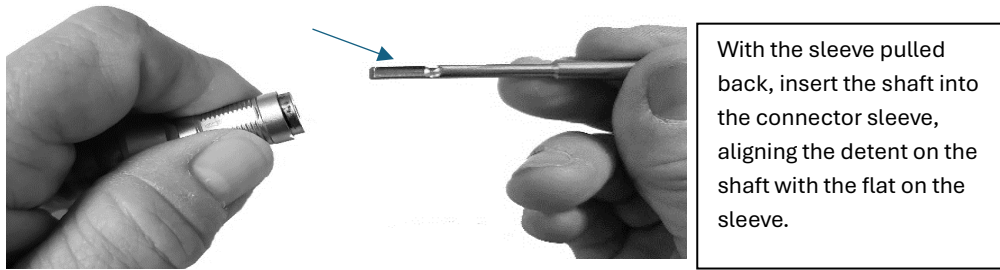

FIGURE 1
- Slide the sleeve of the Reusable Surgical Arm back towards the arm and insert the shaft of the Reusable Surgical Assist Attachment into the connector sleeve/quick connect with the detent on the shaft (of the attachment) facing the flat area on the sleeve of the Reusable Surgical Arm (see Figure 1).